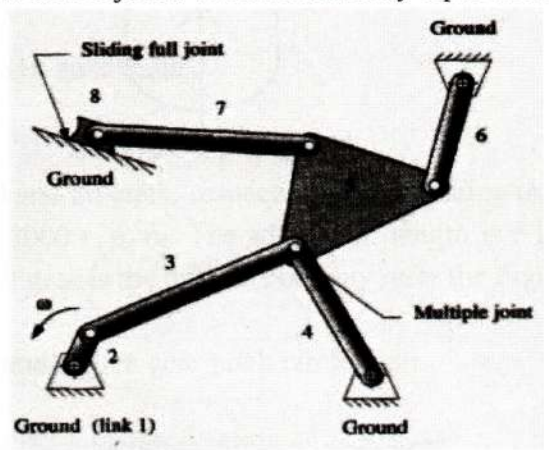

Figure 1
c) Find the number of joints and degrees of freedom of the following mechanism (Figure 1).